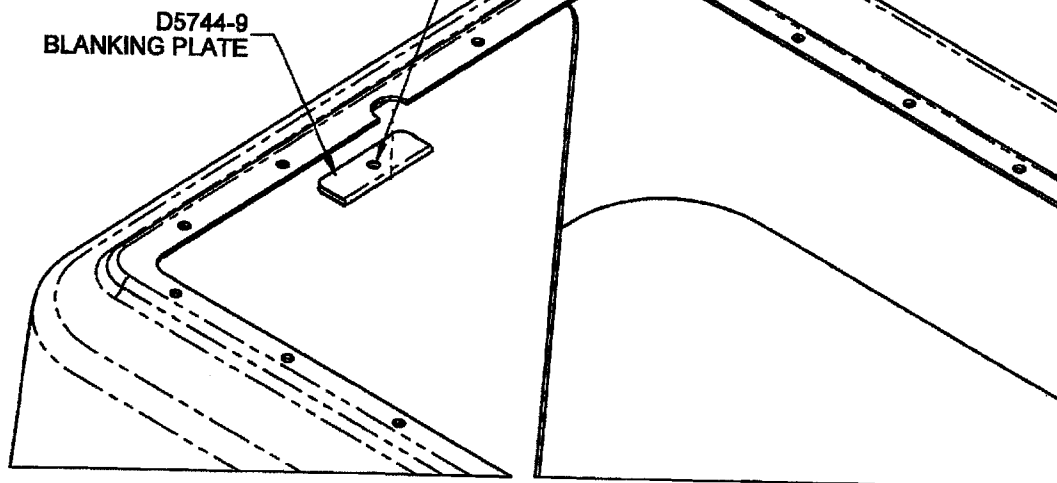

FIGURE 5 - D5744-9 BLANKING PLATE INSTALLATION
11. Transfer Drill 1 x $\phi 0.261$ " - 0.266" (G-H drill) hole from the Air Intake Screen to D5744-9 Retainer as shown in Figure 5.
15. Bond the D5744-9 Blanking Plate to the upper cowl in the location shown in Figure 5, using a suitable adhesive (like CB200 Acrylic Structural Adhesive) per the Aircraft Maintenance Manual. Cure per manufacturer's instructions.